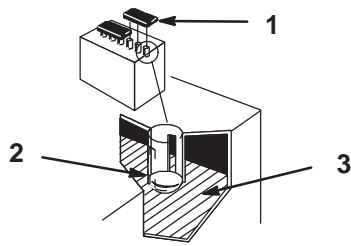

Figure 26
1. Open covers to see into the cells. The electrolyte must be up to the lower part of the tube (Fig. 26).
Important Do not allow the electrolyte to get below the plates. (Fig. 26).
2. Lift off the filler caps (Fig. 26).
3. Slowly pour distilled water into each battery cell until the level is up to the lower part of the tube (Fig. 26).